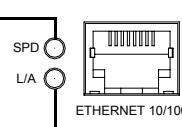

FIG. 2 Ethernet LEDs
Rear Panel Connectors (Cont.):	<ul style="list-style-type: none"> ETHERNET 10/100: RJ-45 port provides 10/100 Mbps network communication and PoE. LEDs show communication activity, connection status, speeds, and mode information (FIG. 2). AUDIO R/L: Two RCA connectors support line-level stereo input for analog stereo signals. RS-232/422/485: 9-pin (DB9) port supports RS-232/RS-422/RS-485 data output including: <ul style="list-style-type: none"> - 300, 600, 1,200, 2,400, 4,800, 9,600, 19,200, 38,400, and 115,200 Baud rates - 8 or 9 Data bits - 1 or 2 Stop bits - Even, Odd, Mark, Space, and None parity settings - CTS and RTS handshaking - XON/XOFF handshaking MIC: 1/8" mini-stereo input jack. IR/Serial: 2-pin 3.5mm mini-Phoenix (male) captive-wire connector provides IR/Serial control output by generating IR with the use of an IR emitter (while in IR mode). This port supports high-frequency carriers of up to 1.142 MHz and can also generate IR with no carrier frequency. I/O: Two digital 4-channel binary I/O ports for contact closure (accepts a 4-pin 3.5mm mini-Phoenix captive-wire connector). Each input is capable of voltage sensing. Input format is software selectable with interactive power sensing for IR ports.
The MAX-CSE uses a standard CAT5 Ethernet cable to provide 10/100 network connectivity to the network (FIG. 2). LEDs indicate communication activity, connection status, speeds, and mode information.
- If the L/A LED (FIG. 2) is not On or blinking, check your cables and connectors.